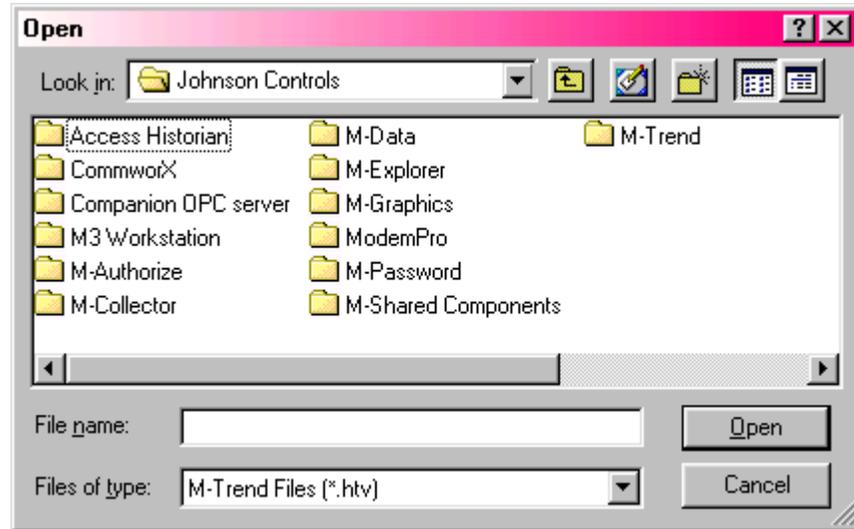

Figure 3-3: File - Open Dialog Box
1. On the File menu, click Open. The Open dialog box appears (Figure 3-3).